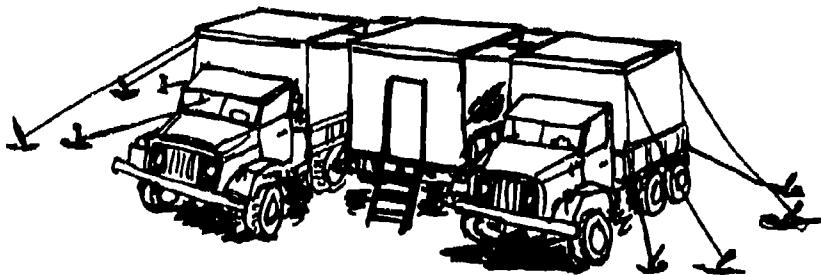

FIGURE 19. MULTIPLE WHEELED VEHICLE ASSEMBLIES.
--"Place two or more vehicles side-by-side." As shown in figure 19, two or more vehicles can be securely attached side-by-side by connecting turnbuckles between the top tiedown rings of each car or vehicle. This adds to the effective wheel base of the vehicles and allows the suspensions of the vehicles to work in unison to cushion the impulse of the blast wave and resist overturn. Parking the cab of every other vehicle in opposite directions will also add to the effective bumper-to-bumper length and further resist overturn from a head-on or rear-on blast wave.